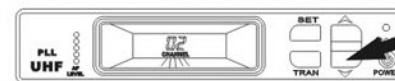

FIGURE 14
b.Press the ▲ or ▼ button. choose the channel's data which you need(Figure 14)